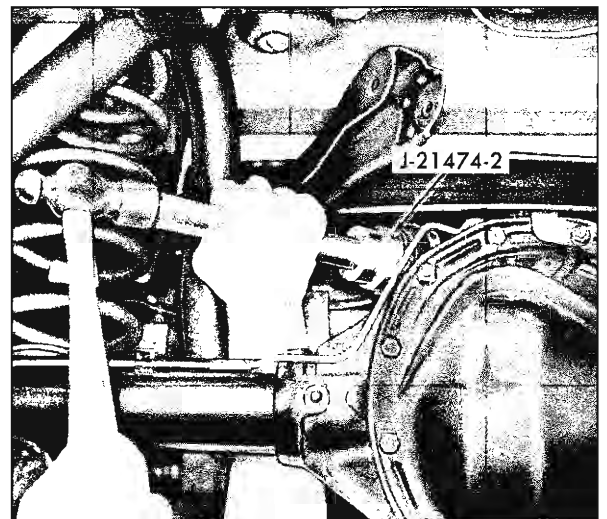

Fig. 32—Carrier Mounted Suspension Bushing Installation (Heavy-Duty)
- e. Position bushing in carrier ear and drive bushing until it seats against carrier. Bushing is properly seated when shoulder on bushing contacts carrier. Refer to Figure 32 for installation.